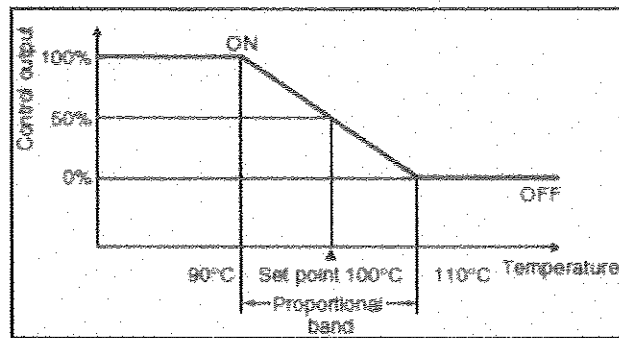

Figure A1(b) /Rajah A1(b)
- (b) **Figure A1(b)** shows the action of proportional mode controller. Based on the figure, interpret the characteristics of Proportional Mode Controller.